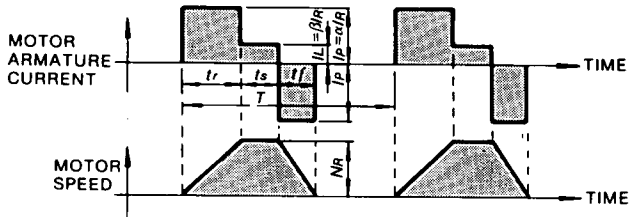

Fig. 4.3 Timing Chart of Motor Armature Current and Speed (Restricted by SERVOMOTOR)
- When the motor repeats rated-speed operation and being at standstill (Fig. 4.3).